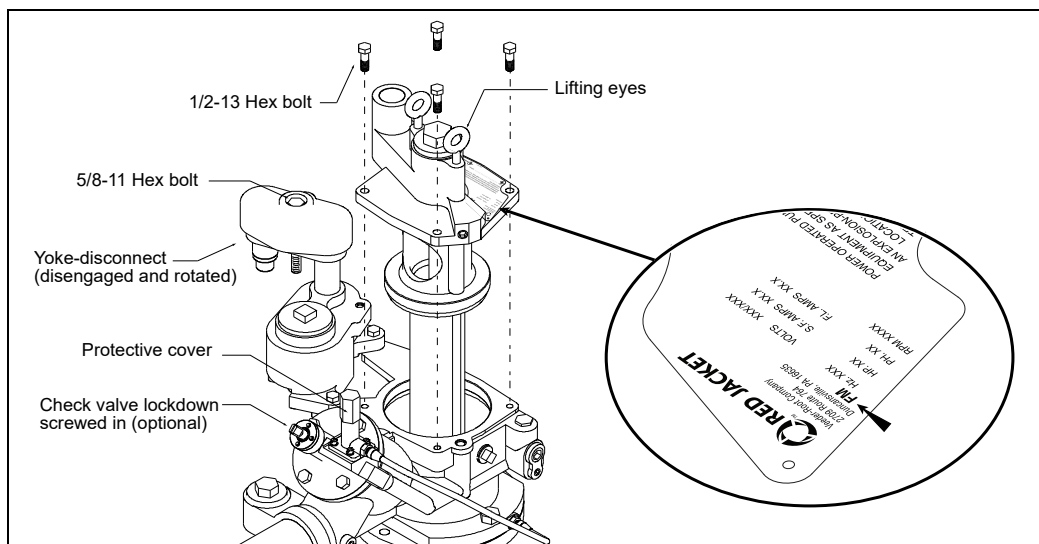

Figure 15. Maxxum® - Extractable Section Showing 'FM' On Nameplate
**Only Pump Motor Assemblies listed in Table 10 are compatible with the Maxxum® Pump. These are marked with an “FM” on the nameplate (Figure 15).**
2. Unscrew the 5/8-inch bolt and pull the yoke up and rotate it 90° counterclockwise (see Figure 15).
## Installing the Extracta Assembly (Ref. Figure 15)